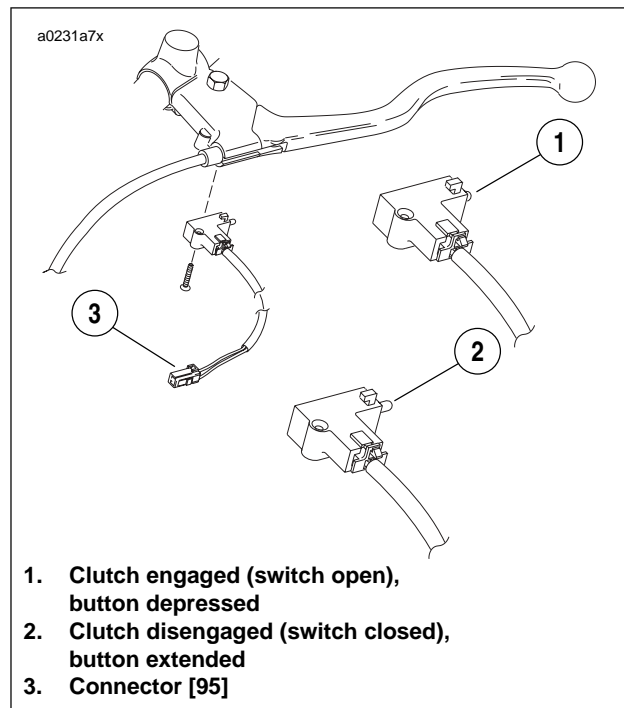

Figure 4-23. Clutch Switch
- By disengaging the clutch and grounding the relay through the clutch switch. See Figure 4-23.